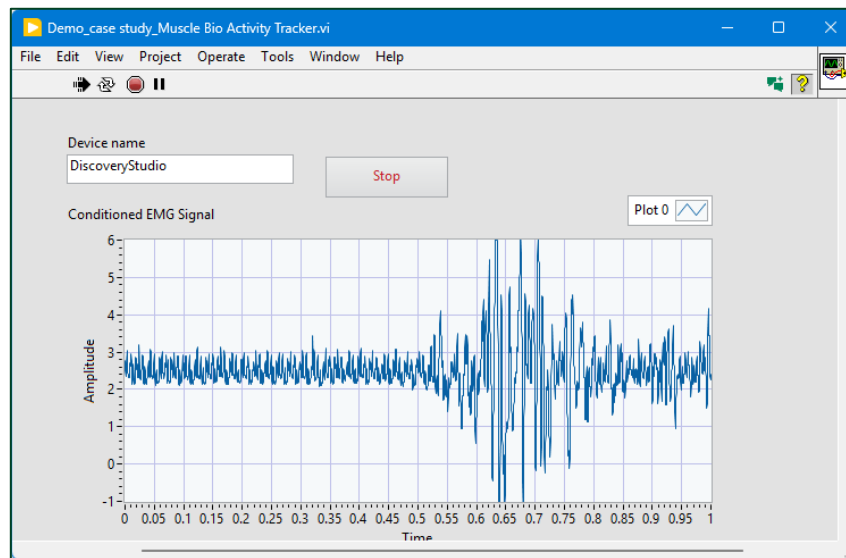

Figure 11. VI Front Panel
- 2.2. Modify the front panel shown in **Figure 11**. Inside **Device name** String Control write your corresponding **Device** name from **Table 2**.